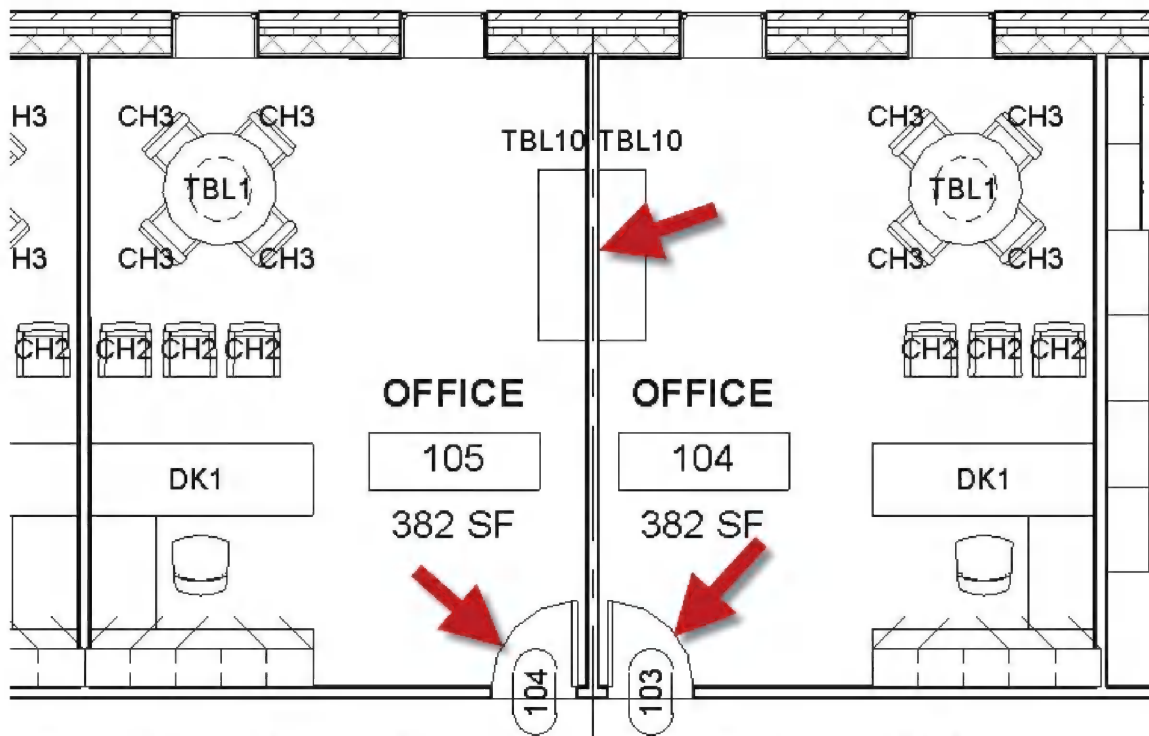

FIGURE 16-3.8 Level 1 – Existing floor plan view – wall and two doors to be demolished
16. Zoom into offices 104 and 105 as shown in Figure 16-3.8.
17. Holding the Ctrl key, select the wall and two doors pointed out in Figure 16-3.8.